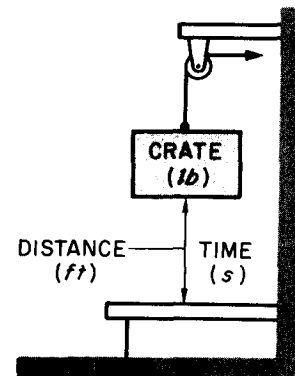

Fig. 1-8
1. An engine is used to lift heavy crates on the truck loading platform shown in figure 1-8. The horsepower needed to lift crates can be found using this formula.